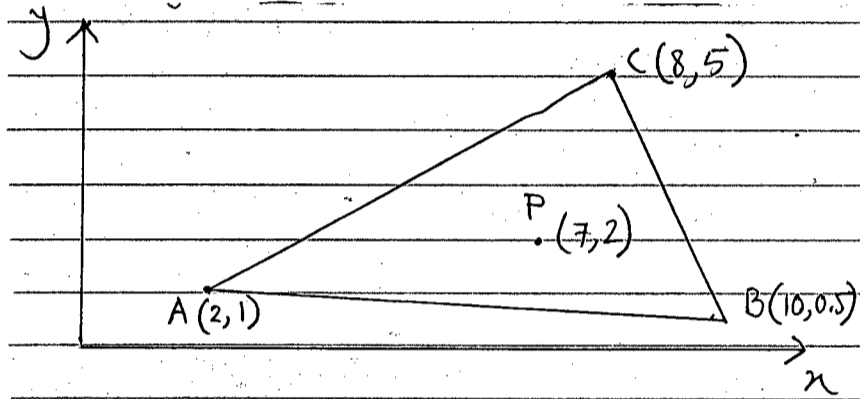

Fig. 5
- (b) Determine natural coordinates of the point P of the triangular element ABC shown in Fig. 5. (11 1/3)